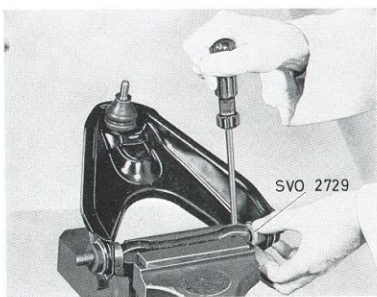
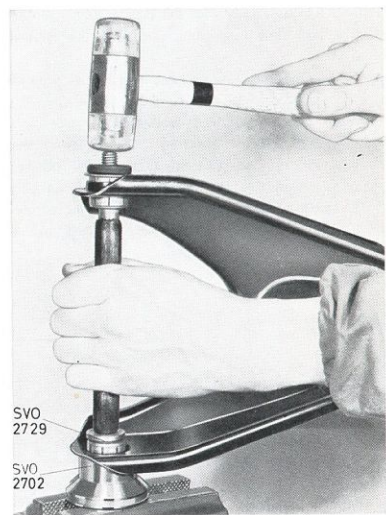

Fig. 6-33. Removing control arm shaft. 1. Removal tool 2729
Fig. 6-34. Removing control arm shaft. 2. Driving out shaft
2. Fix the control arm shaft securely in a vice. Carefully bend out the control arm ends so that tool 2729 can be fitted, see Fig. 6-33. Drive out one of the bushes with a fiber club and tool 2702, see Fig. 6-34. Turn the control arm, move tool 2729 over to the other side and drive out the other bush in the same way as for the first one.